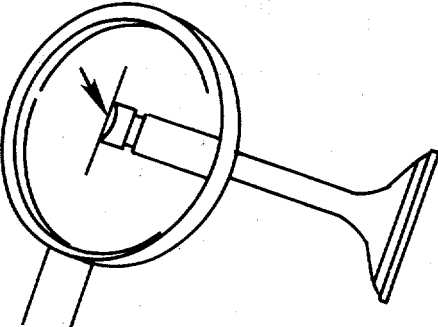

FIGURE 4-14. Checking Valve Stem Flatness.
d. Check valve stem tip for flatness as shown in FIGURE 4-14.